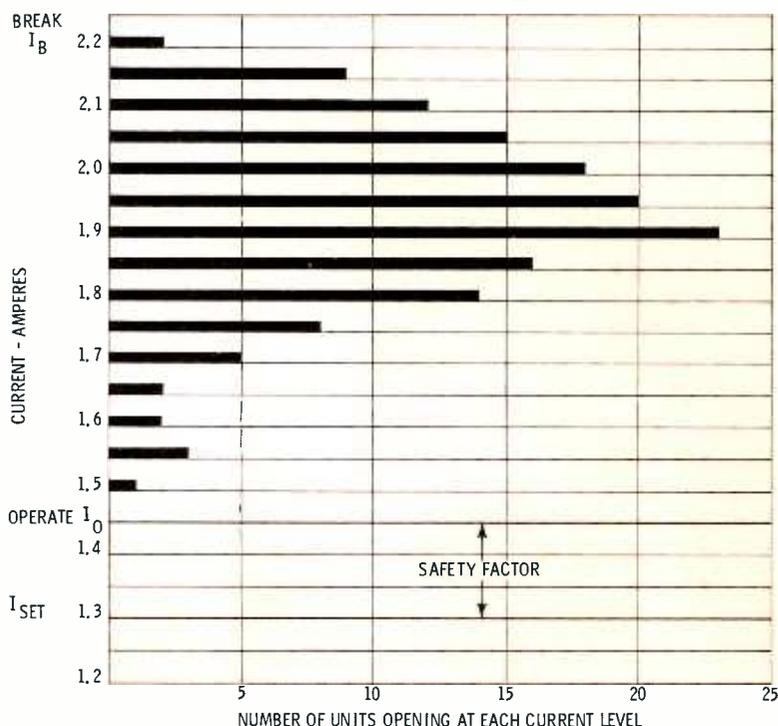

Fig. 2. An analysis of the actual operating range of a group of circuit breakers.
Fig. 2. In the previous example, 1.3 amperes (I_{set}) was the maximum line current drawn by the group of normally operating sets. Since a safety factor (10%) was desired to prevent unnecessary "nuisance" openings, the "operating current" (I_0) was established at 1.45 amperes. From this, the "break current" was calculated as being 2.2 amperes. Approximately 150 circuit breakers were adjusted for this range and then tested to find the actual current level at which they would open. The graph shows that most of them (23) opened at 1.9 amperes. Many more opened quite close to this level (20 at 1.95 amperes and 17 at 1.85 amperes). The opening level of the remaining circuit breakers tapered off so that all fell within the current range from "operate" to "break." It should be noted that the number diminished as the current approached the "break" current (2 opening at 2.2 amperes). Also note that none
Let's take a look at some of the problems that occur in TV sets returned for repair. One of the most common is that the protector keeps "popping out," or opening up, when there doesn't seem to be anything wrong with the set. The first analysis is that "the breaker is bad." This is possible, but this particular trouble symptom usually is caused by a change in circuit current attributed to the aging or changing of a component. This argument doesn't seem to stand up, however, if another circuit breaker of the same rating is substituted and the trouble symptom disappears. But wait—are all circuit breakers with the same rating actually the same? Not quite. Admittedly, they are quite close to being "peas in a pod"; however, remember Fig. 2.
200%. For the preceding case, the current would have had to be at least 3 amperes and persist for several minutes. In comparison, 90% of the circuit breakers in the graph in Fig.2 would have opened at 2.1 amperes—not in an hour, but in less than a minute. (Most circuit breaker opening times are around 15 seconds. Higher percentage overloads open the unit in even less time.)